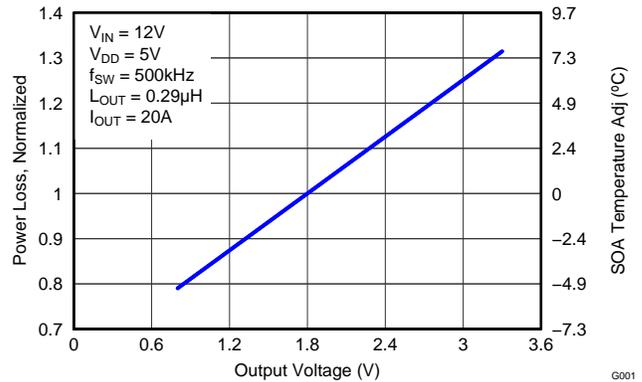

Figure 10. Normalized Power Loss vs Output Voltage
- Normalized Power Loss for output voltage \approx 0.93(Figure 10)
- SOA adjustment for output voltage \approx 1.0°C (Figure 10)